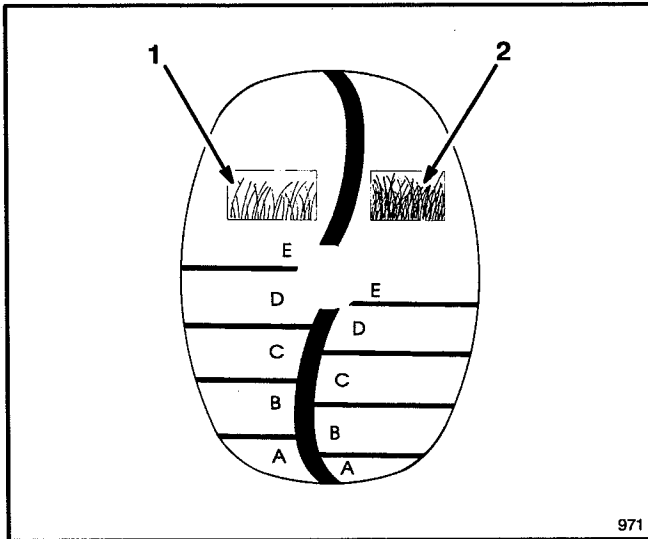

Figure 14
1. Before starting the engine and beginning to mow, push the mower into the grass. Stop when the letters on the SmartWheel design on the rear left wheel are upright (Fig. 14).
2. Using the coded SmartWheel design (Fig. 14), compare the tips of the grass blades to the letters on the wheel. Whichever letter the tips of the grass blades correspond with is the proper cutting height.